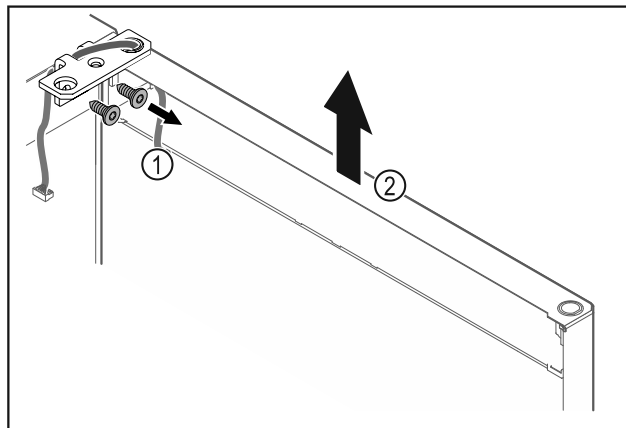

Fig. 28
- ▶ Unscrew the hinge Fig. 28 (1).
- ▶ Lift the door with the hinge straight up by Fig. 28 (2) roughly 200 mm and take it off.